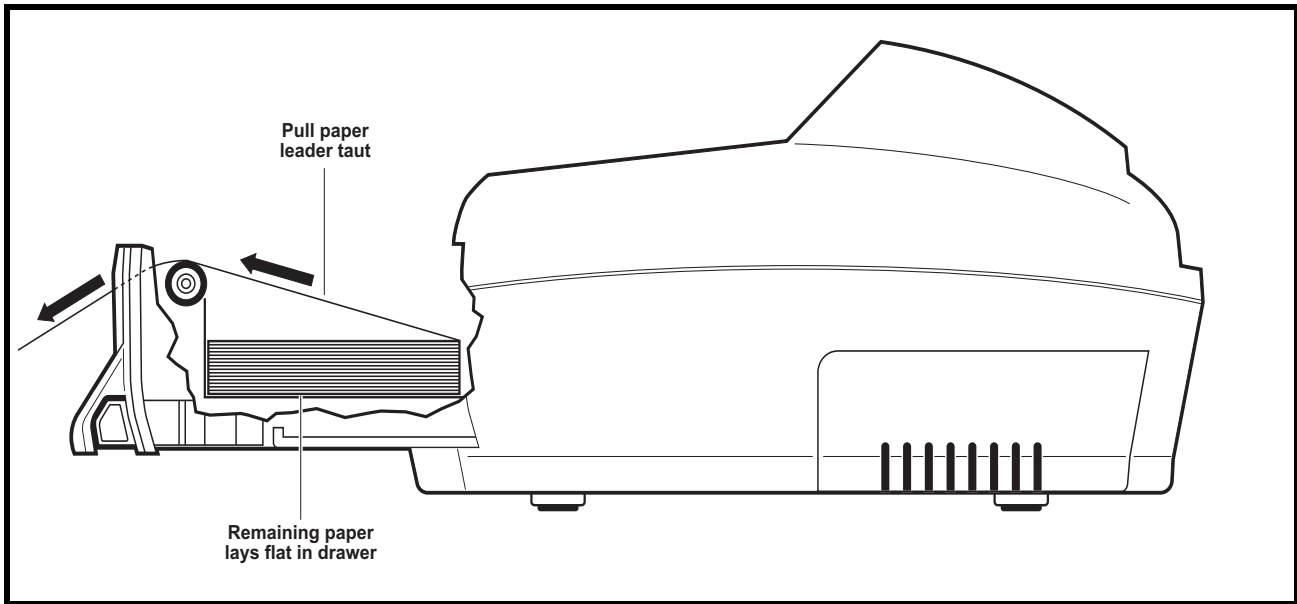
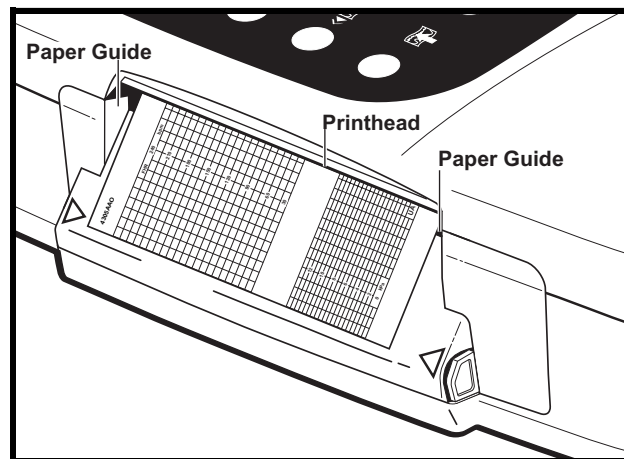

Figure 4-7. Paper Drawer Side Cutaway View
Figure 4-8. Closing the Paper Drawer
8. Pull the paper leader taut at an angle between remaining pack and the paper guides. The balance of the paper pack should stay flat in the drawer as shown in Figure 4-7. (The paper guides are shown in Figure 4-8.)